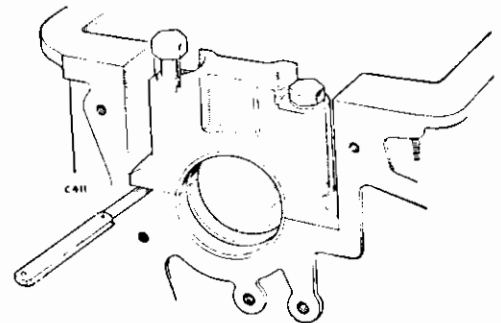

Fig. A-409—Checking main bearing nip
1. Remove the bearing caps and fit the bearing shells, locating by means of the tags. Tighten the caps down and slacken off one bolt of each pair. Check the bearing nip, as illustrated in Fig. A-409, ensuring that the clearance does not exceed .004 to .006 in. (0,10 to 0,15 mm). The nip can be corrected by selective assembly of bearing shells; these are available in slightly varying thicknesses.